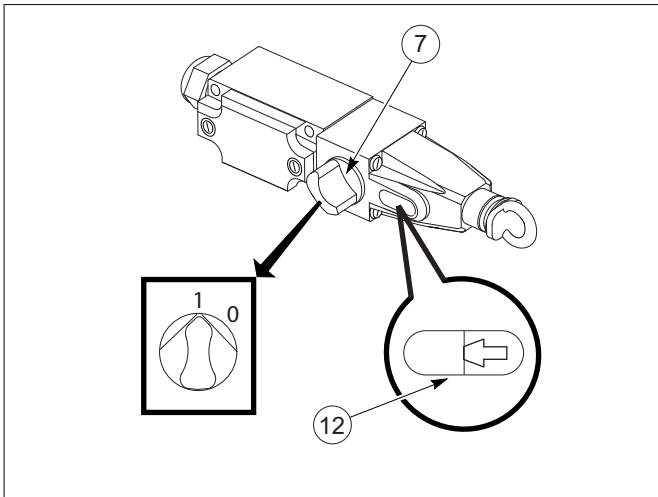

fig. 21 Setting the emergency stop cord switch to the "1" position
2. Set turning knob 7 on the emergency stop cord switch to the "1" position, see fig. 21.